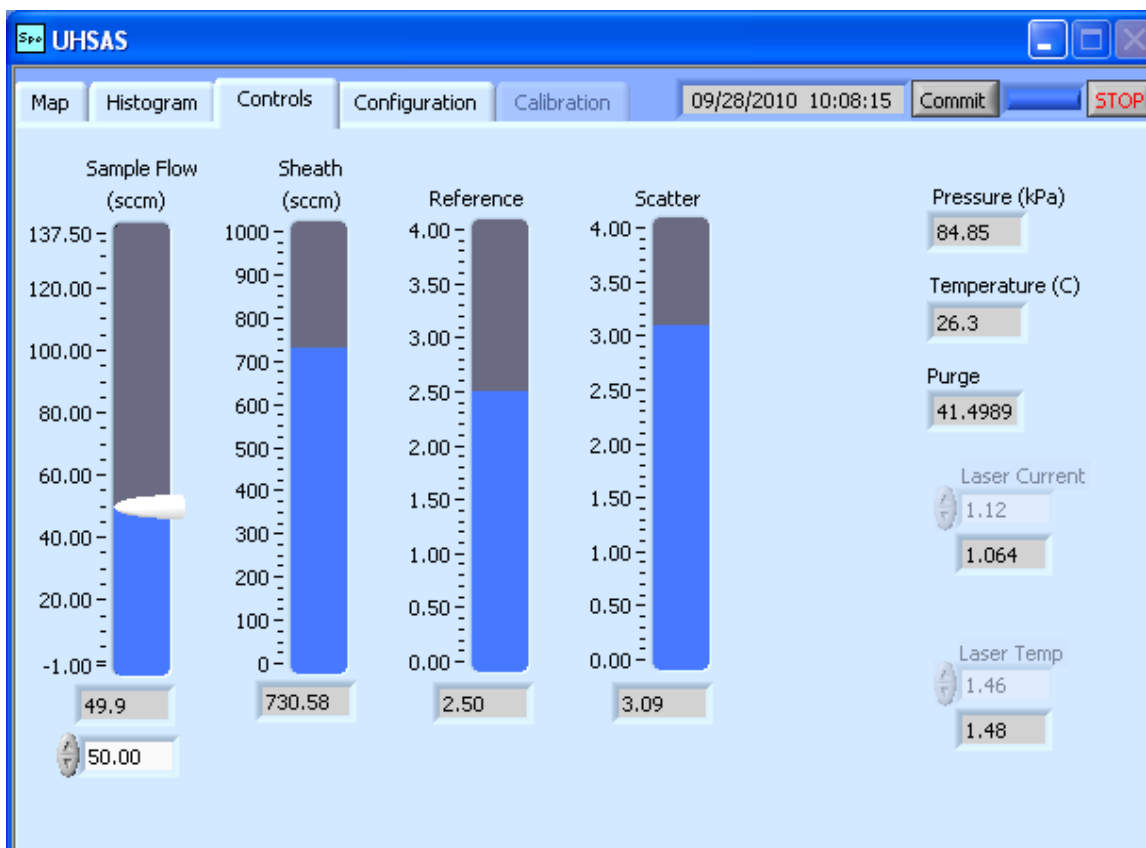

Figure 9: The **Controls** Tab on the UHSAS Software
- 4.) Click on the Spectrometer icon on the desktop to bring up the UHSAS window, shown in Figure 9. Note that the program starts with the **Controls** tab as the default. The **Controls** screen allows the user to set the sample flow and to monitor various parameters.